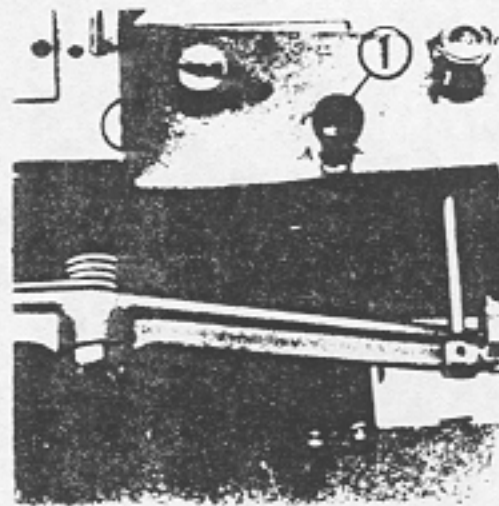

Fig. 11
The pressure of the presser feet can be regulated by the pressure adjusting screw 1, Fig. 11. To increase the pressure, turn this screw over to the right; to decrease, turn to the left.
The length of stitch is regulated by the feed regulating button ②, Fig. 11. Rotate the hand wheel slowly by pressing this button until the tip of the button enters completely into the groove of the feed eccentric. When it is completely in, rotate the hand wheel with the push button in the pushed-in condition until the vibrating presser foot amount becomes equal to that of the lifting presser foot amount.
The lifting presser foot amount is adjusted by the button ③, Fig. 11.
When this happens, push the auxiliary hand wheel and turn it toward the left as you push the safety clutch button (Fig. 11 (4)) on the bed of the machine, and the safety clutch will be set and the machine will run normally again.